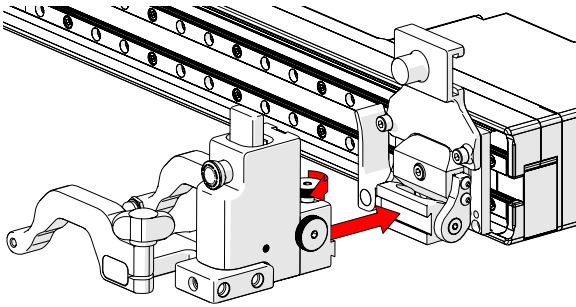

Fig. 119 - Mount probe holder to carrier
3. Loosen the probe holder adjustment knob (Fig. 119) and mount the heavy duty vertical probe holder's dovetail jaw to the carrier.